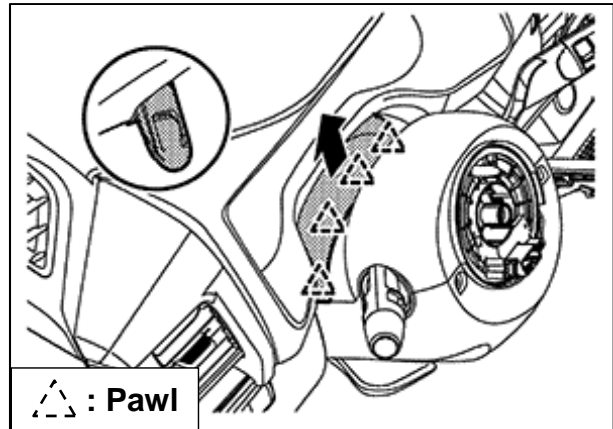

Figure 79
55. Unlock the steering wheel tilt/telescope adjustment lever and place the steering wheel to the lowest level, disengage the four (4) fixing pawls, as indicated by the arrow shown in Figure 79, and then remove the skirt portion of cluster lid A.